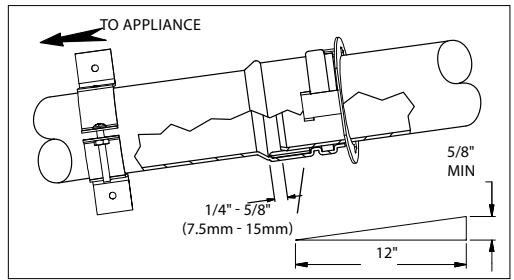

Figure 7
- The slope of the vent pipe must be at least 5/8" rise per foot (50mm rise per 1m) away from the appliance, **(Fig.7)**.
- Wall Straps are required to support the overall vent run. Make sure that the load of the vent system is not supported by the appliance. **(Fig.7, 8, and 9)**